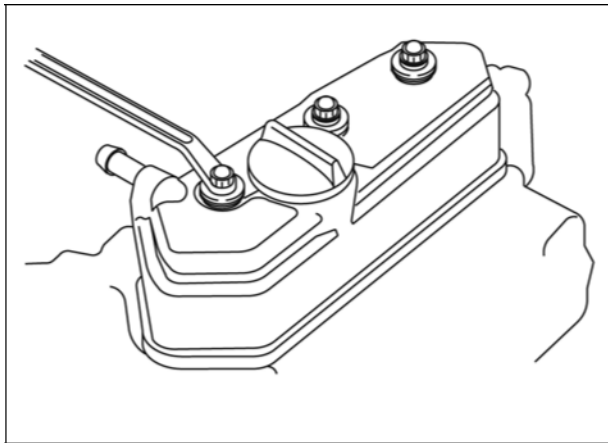

Figure 41
3. With Number 1 piston at TDC of compression stroke, check and adjust valve clearances for cylinders (Figure 41).
5. Install valve cover (Figure 41). Torque cover nuts to values listed in Section 14 - Engine Specifications.